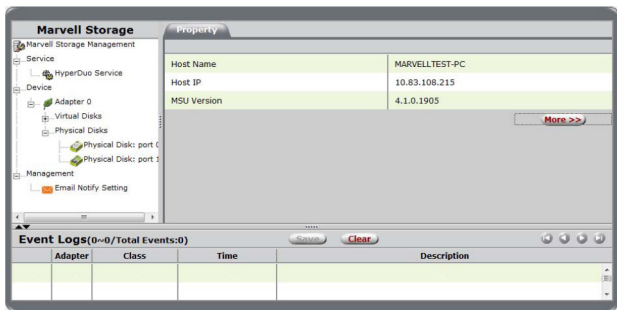

Figure 4
12. After log in, you can access to the MSU user interface for further VD management. See **Figure 4**.